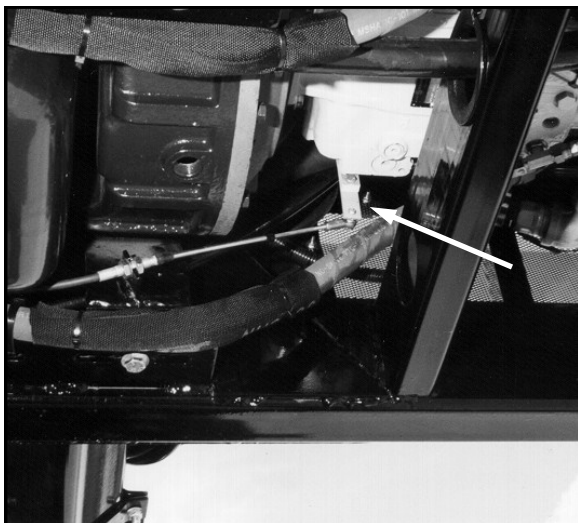

FIG 7.59
**NEUTRAL SETTING** - When the hydrostatic lever is in the neutral position, the machine should not be moving in either direction. If it does, the neutral setting of the lever (fig. 7.59) on the hydrostatic pump needs to be adjusted. See accompanying pump manual.